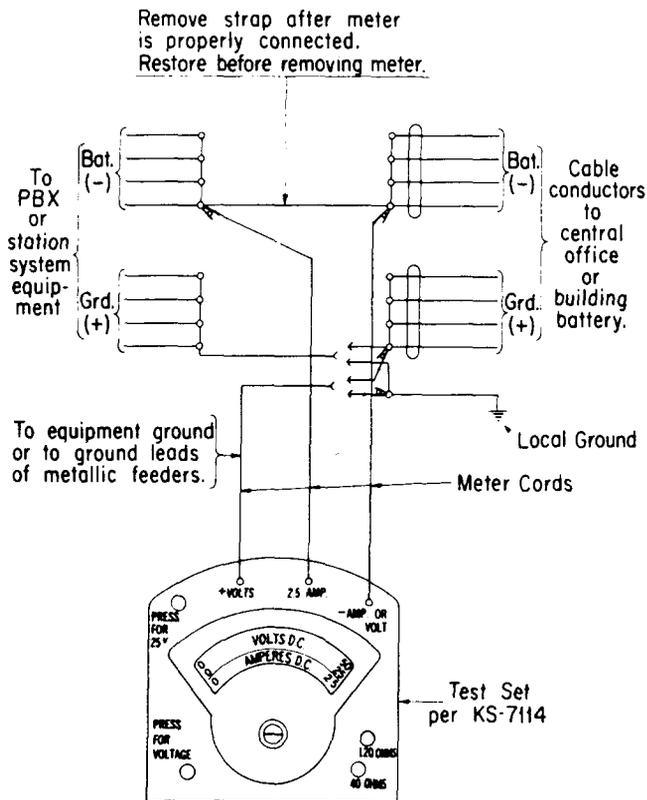

Fig. 1
3.01 Connect the test set, as shown in Fig. 1, to the battery feeder terminals of the equipment. Make the connections so that the current supplied by all conductors in a group of feeders is carried through the meter.